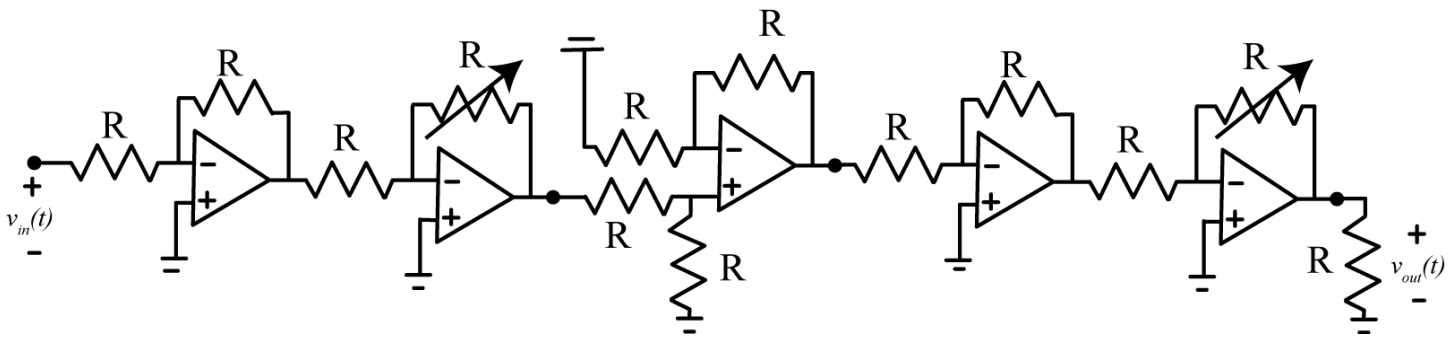

Figure 5. Prefilter, differential amplifier, and proportional controller.
- 5) Connect the first three stages of your system, as shown in Figure 5. The output should match the input. If it does not, modify the variable resistor on the controller. Be sure the remove the load resistor before you go on.